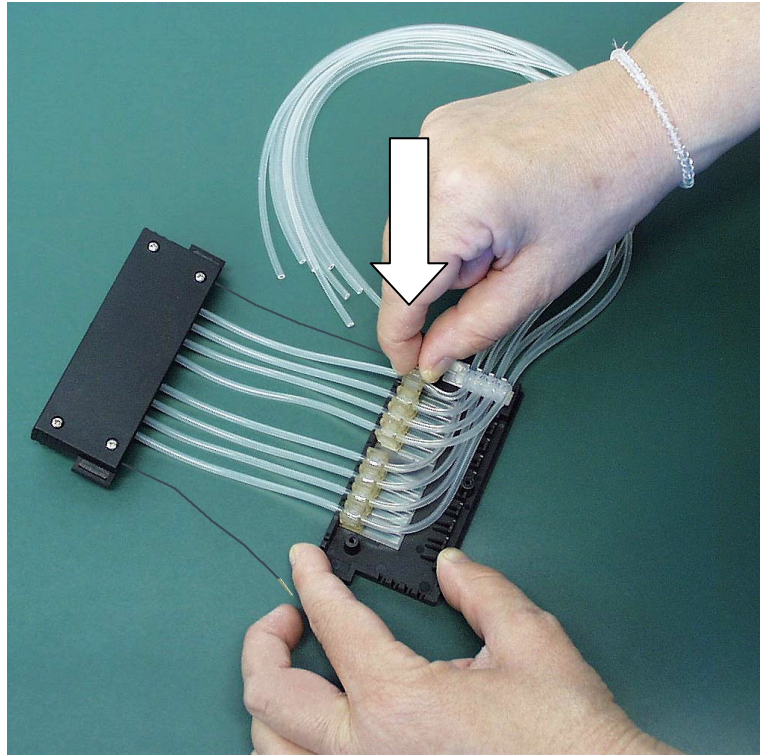

Fig. 7.24 Pressing the tube fasteners into place
9. Then press each tube fastener into place in its groove on the plastic sight window (*Fig. 7.24*).